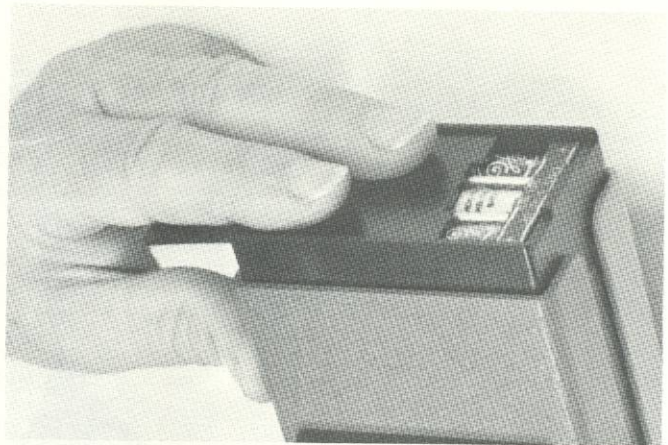

Figure 2-3. Removal of battery-compartment cover.
- a. Hold the 1988 as shown in Figure 2-3 and slide the bottom cover off the instrument.
- e. Slide the battery-compartment cover (notch end first and bow up) back into the grooves on the bottom of the battery compartment (see Figure 2-3).